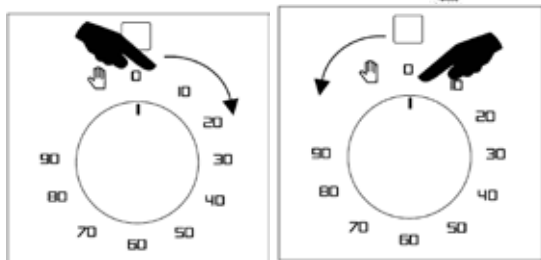

Figure 9
* Turnspit: Skewer turning function must do the following operations for commissioning. (See Figure 9)
You can set the minute timer up to 90 minutes by turning the mechanic minute counter to clockwise. (See Figure 9) The minute timer makes the oven start as soon as it's set, and turn it off automatically when the time is up. After you put the meal in the oven, set the cooking functions and the temperature by using the control buttons, and turn the mechanic minute counter to the position you need. When, the time is up, it is stimulated by a tone and the oven turns itself off. The oven operating time is set up to 90 minutes with circuit breaker.